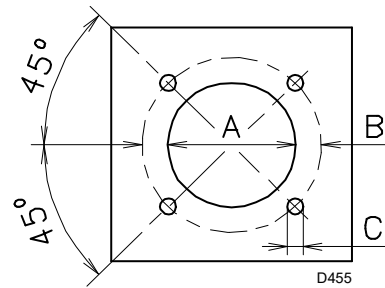

Fig. 12
Drill the combustion chamber locking plate as shown in Fig. 12 (Tab. L). The position of the threaded holes can be marked using the thermal screen supplied with the burner.
- Fit the entire burner onto the boiler hole prepared previously (Fig. 12), and fasten with the screws supplied.